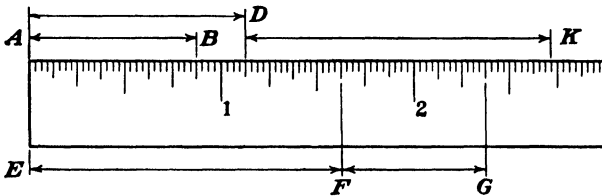

Fig. 292.
1. Can you read the rule? Measure the distances in Fig. 292: